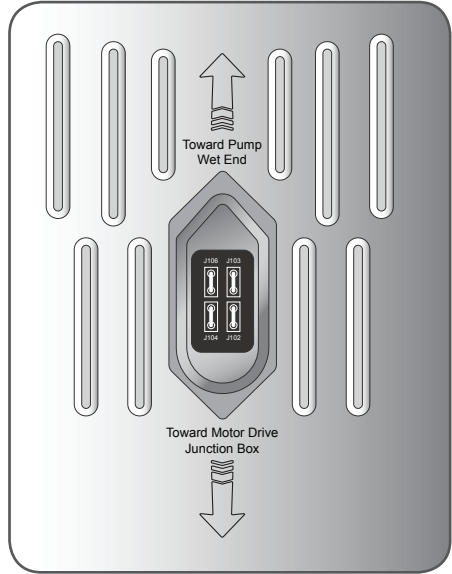

Figure 2. Motor Drive Orientation
1. Place new motor drive onto pump motor body, be sure to properly align the electrical connections on the pump motor body. See Figure 2.